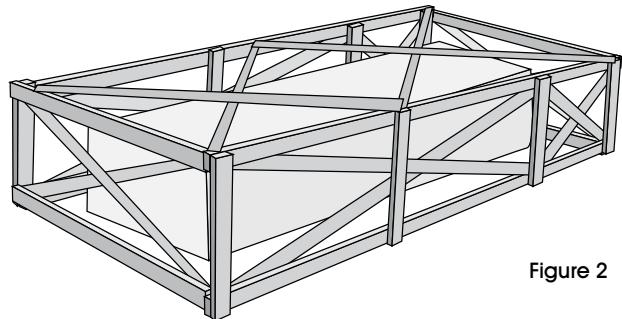

Figure 2
1. The Automatic Stretch Wrap Machine will arrive with similar crating to what is shown to the right. Please remove the protective packaging and prepare the unit to stand up. (See Figure 2)